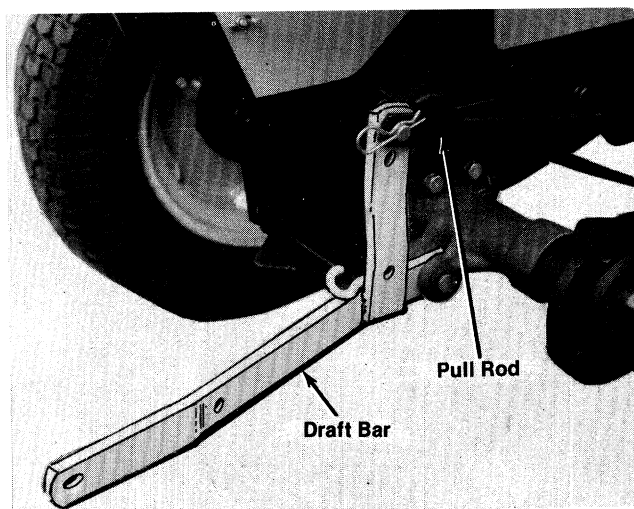

FIGURE 4.
2. Assemble each draft bar to the axle brackets using the longest clevis pins, two large washers, and secure with a cotter hairpin. (See figures 4 and 5.)
3. Attach the flat end of the pull rod to the top hole in the draft bar with the shorter clevis pin, flat washer and cotter hairpin. (See figure 4.)